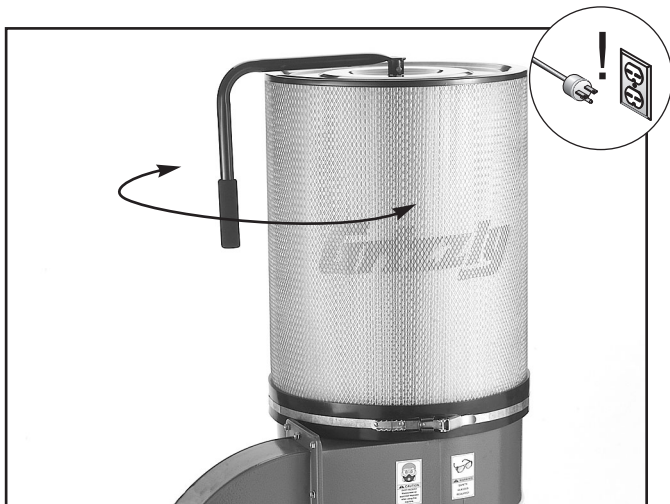

Figure 25. Move canister handle back and forth.
1. Move the canister handle back and forth to free trapped dust particles from the filter (**Figure 25**). The particles will fall into the collection bag.